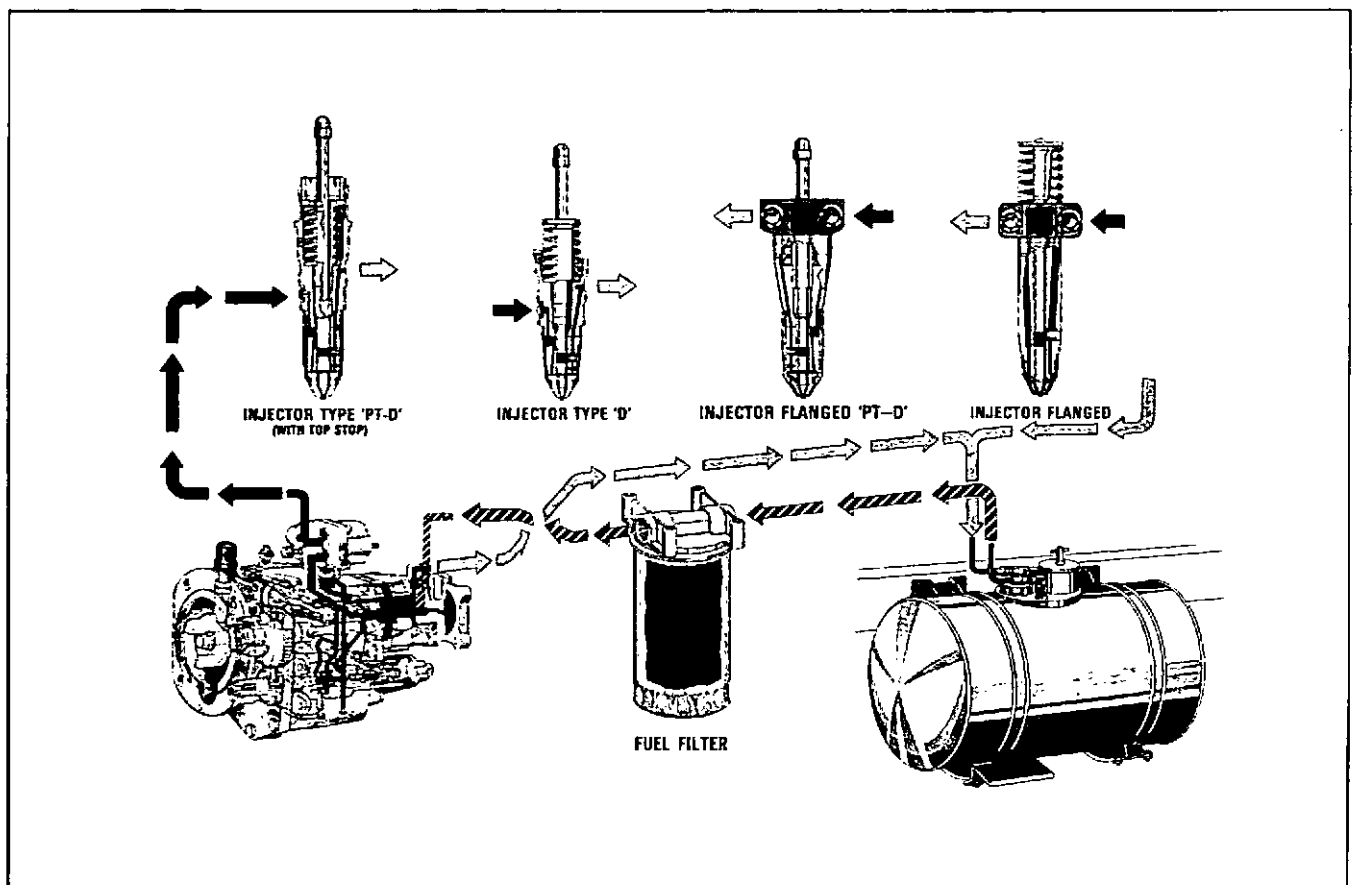

Fig. 15-1, (FWC-33). Fuel flow in the PT fuel system.
1. A fuel pump to pull the fuel from the supply tank and deliver it to the injectors for each cylinder. Fig. 15-1.